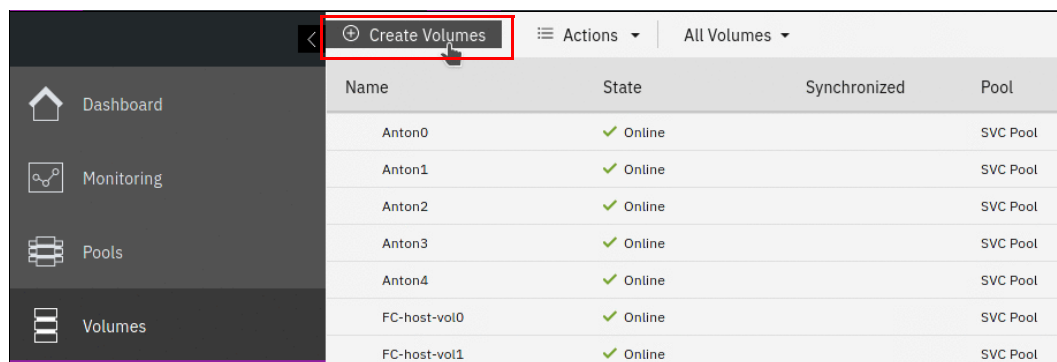

Figure 6-27 Create Volumes button
2. Click **Create Volumes**, as shown in Figure 6-27 on page 405.